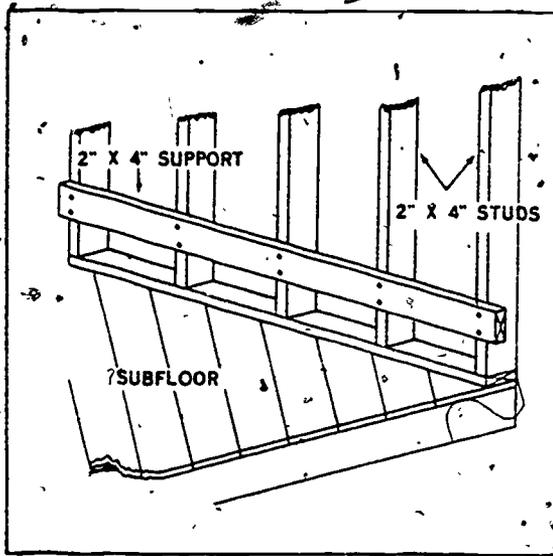
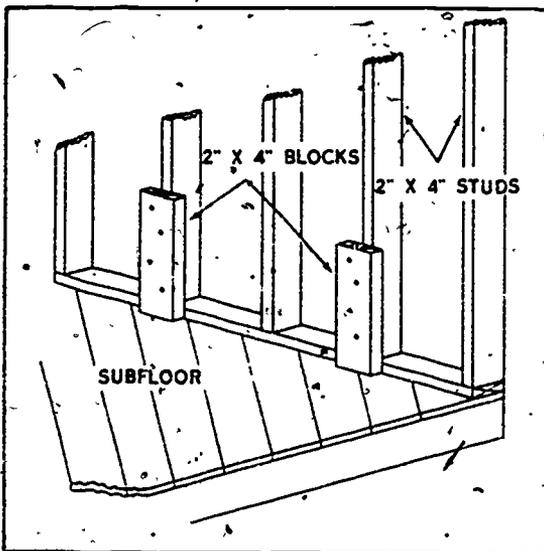

Figure 2-20. 2" x 4" used as bathtub support.
Figure 2-21. Blocks used as a bathtub support.
**Installation of bathtubs.** Modern cast-iron tubs are designed to rest on the floor and normally span an area from wall to wall. The tub sits firmly on the subfloor, and the rim of the tub is supported by a piece of 2" x 4" nailed lengthwise on the studs, as shown in figure 2-20, or supported by 2" x 4" blocks resting on the subfloor and nailed to the soleplate and studs, as shown in figure 2-21. After the tub is placed against the studs and the rim of the tub is resting on its supports, check it to insure that it is level. If you use shims to level the tub, use material that the weight of the tub will not cut or break.